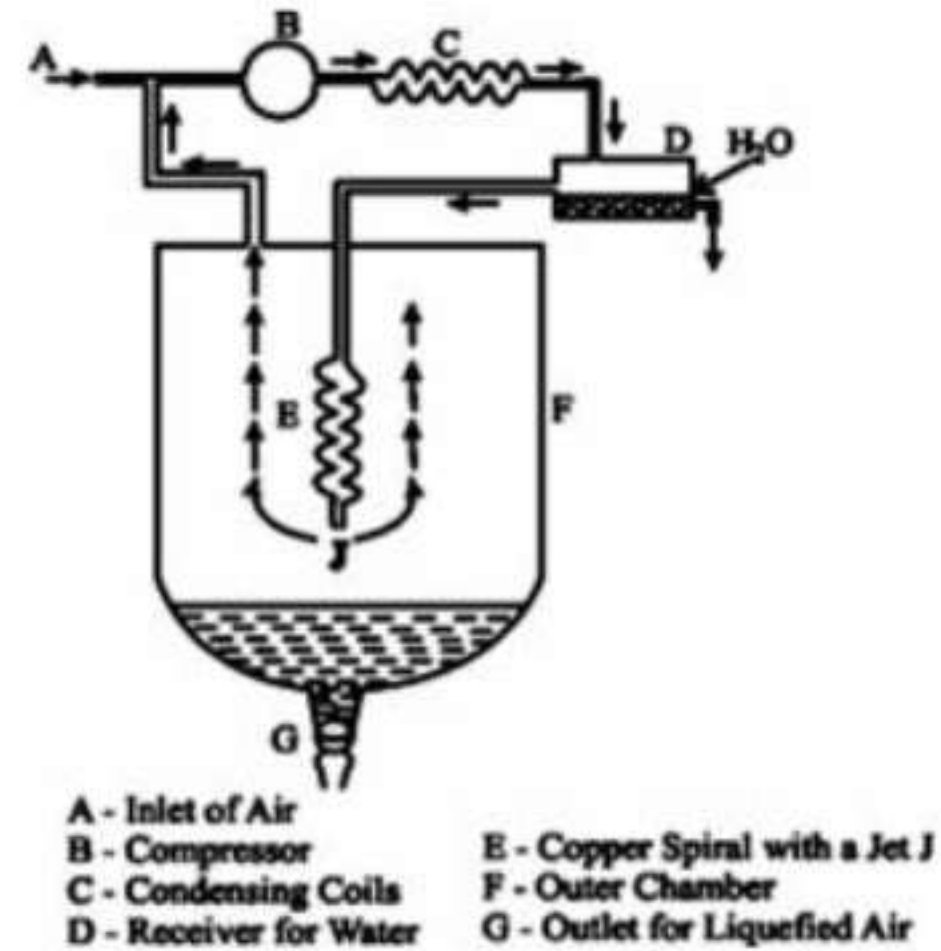

Figure 4.12: Linde's Air Liquefaction
**Construction:** The apparatus used is shown in figure 4.12 and the parts are labeled.